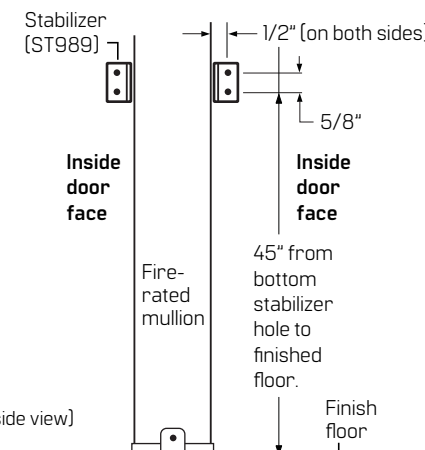

Figure 15 HC mullion assembled (side view)
- Mark holes for stabilizers as shown in **Figure 15**.